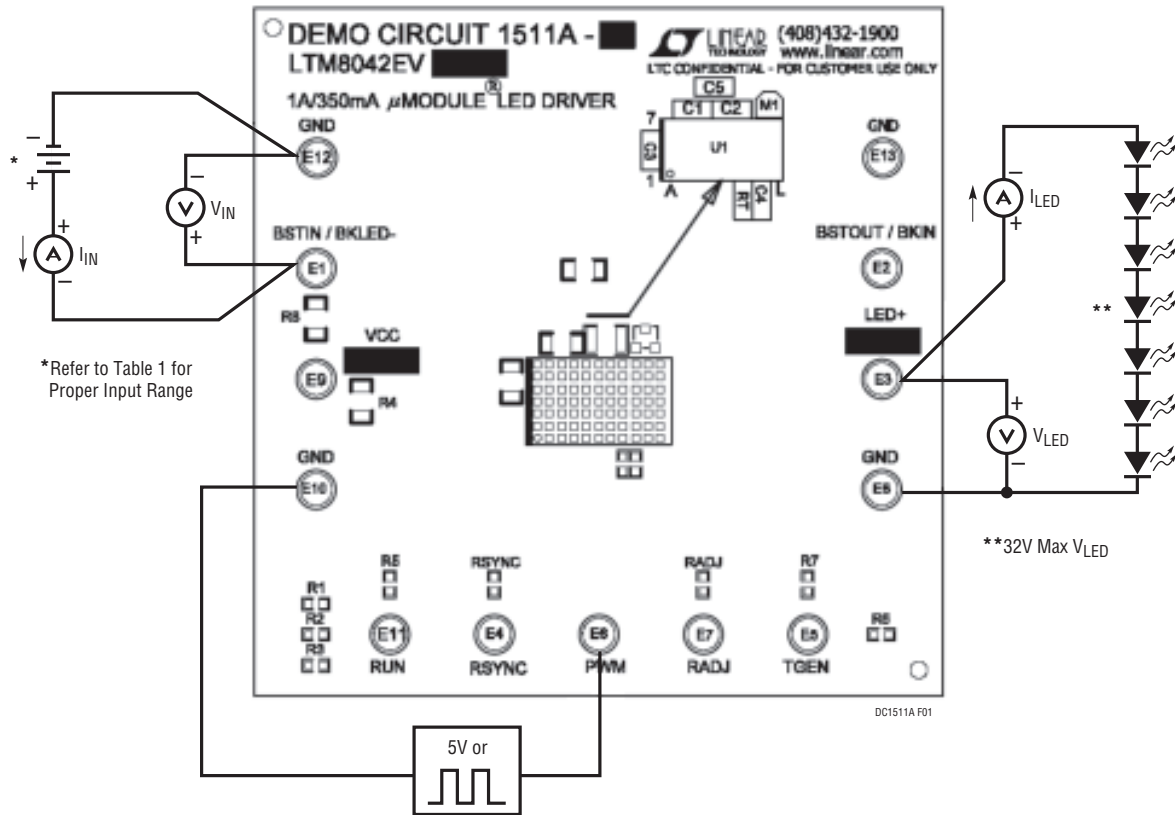

Figure 1. Proper Measurement Equipment Set-Up (Boost Topology)
Demonstration circuit 1511A is easy to set up to evaluate the performance of the LTM8042EV/LTM8042EV-1. Refer to Figure 1 for the proper measurement equipment set-up and follow the procedure below for a boost (step-up) topology.
1. Connect a string of LEDs with forward voltage 32V or less, but greater than the input voltage, to the LED⁺ (LED anode) and GND (LED cathode) terminals on the PCB, as shown in Figure 1.